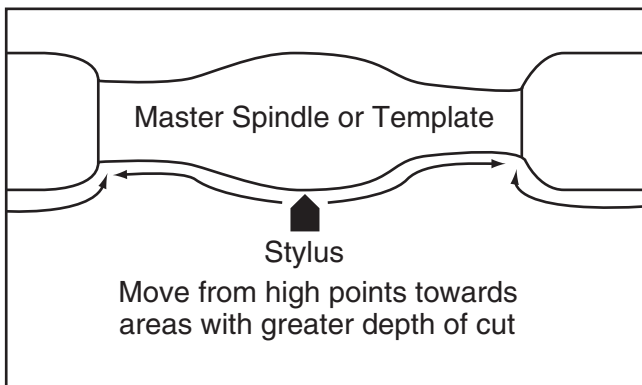

Figure 17. Recommended direction of stylus travel.
Note: Always move stylus so it follows the template "downhill". Trying to move "uphill" along the template will cause the stylus and cutting tool to dig into the template and workpiece (see **Figure 17**).
13. If you are satisfied, continue to remove material from workpiece, using "downhill" cutting method illustrated in **Figure 17** on **Page 17**.